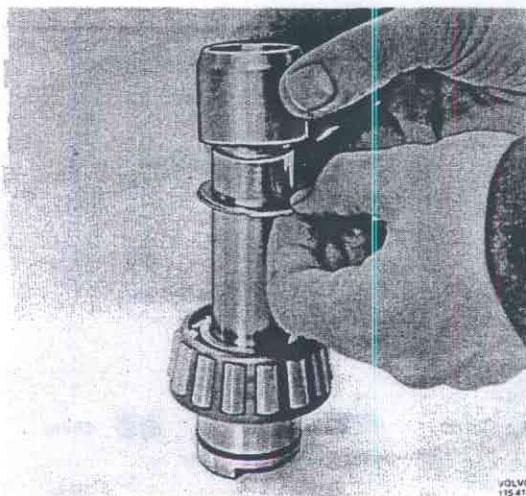

Fig. 43-168. Fitting spacer sleeve
3. Place the same number of shims that were removed plus a shim of about 0.2 mm (0.008") on the shaft. Fit spacer sleeve as shown in Fig. 43-168 with the bevelled end upwards.